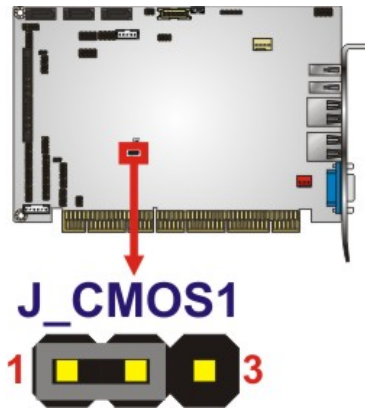

Figure 4-4: Clear CMOS Jumper
- Jumper Location:** See **Figure 4-4**
The location of the clear CMOS jumper is shown in **Figure 4-4** below.